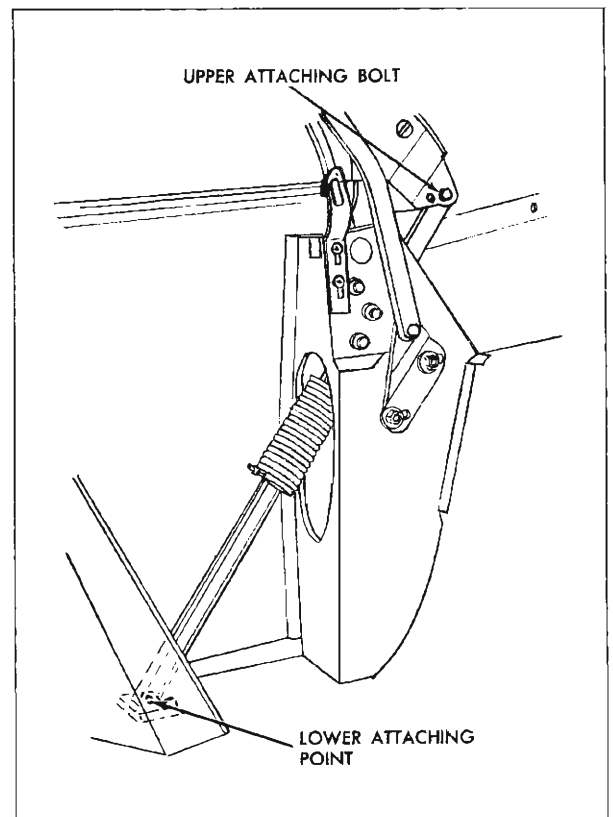

Fig. 21-27 Manual Lift Assembly
3. Remove upper and lower attaching bolts. Raise upper end of lift assembly, then move lower end of lift assembly up and forward until lift assembly is clear of oblong hole in top compartment brace (Fig. 21-27).
4. To install manual lift assembly, reverse removal procedure making sure that upper end of lift is attached to the rearmost hole in the side roof rear rail assembly (Fig. 21-27).